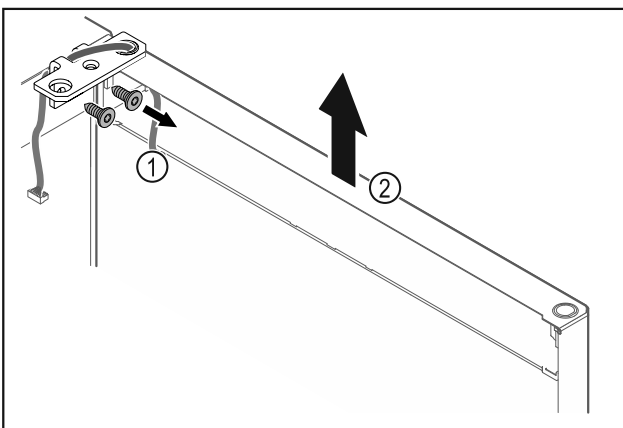

Fig. 18
- ▶ Unscrew the hinge Fig. 18 (1).
- ▶ Lift the door with the hinge straight up by Fig. 18 (2) roughly 200 mm and take it off.